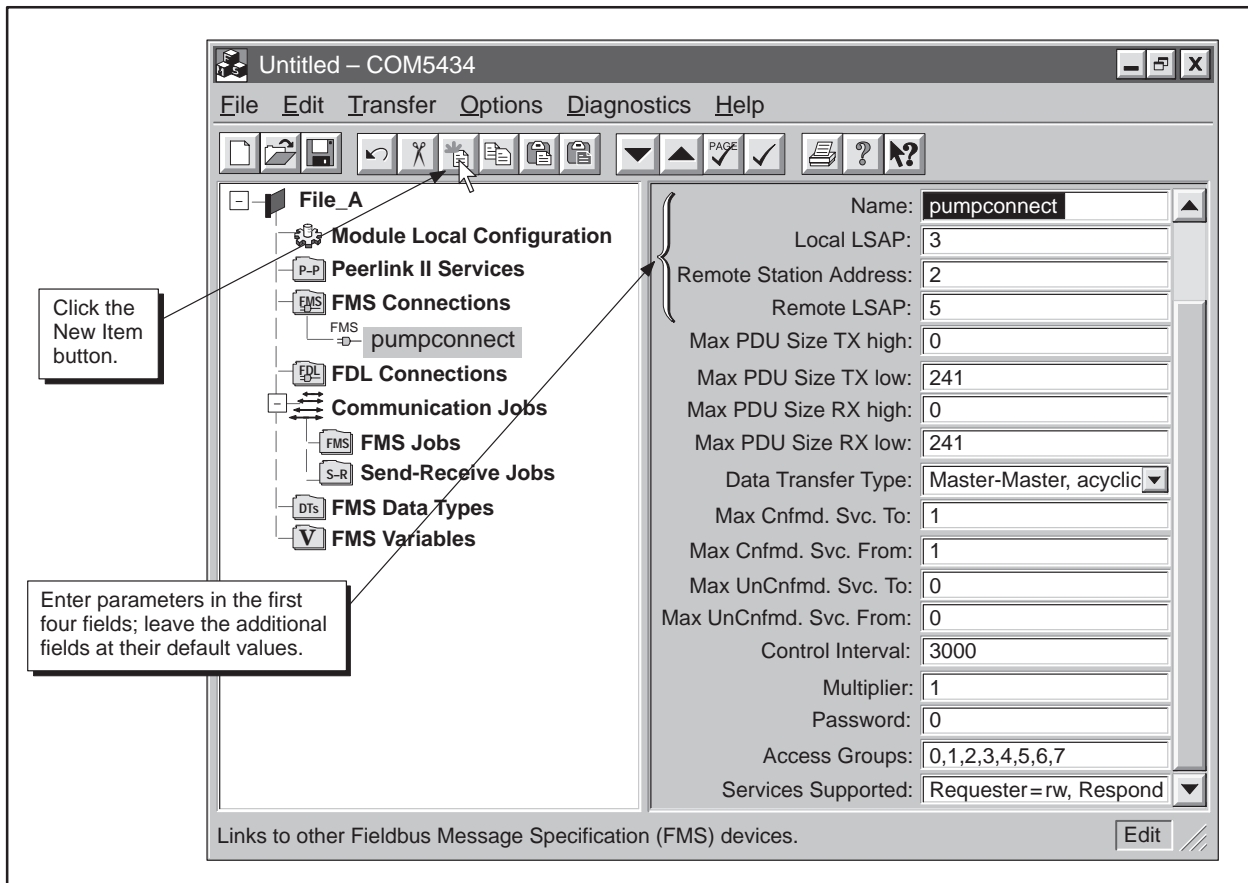

Figure 6-6 Defining an FMS Connection Example
3. Complete the fields listed below (and shown in Figure 6-6) to define the FMS connection for Station 1: